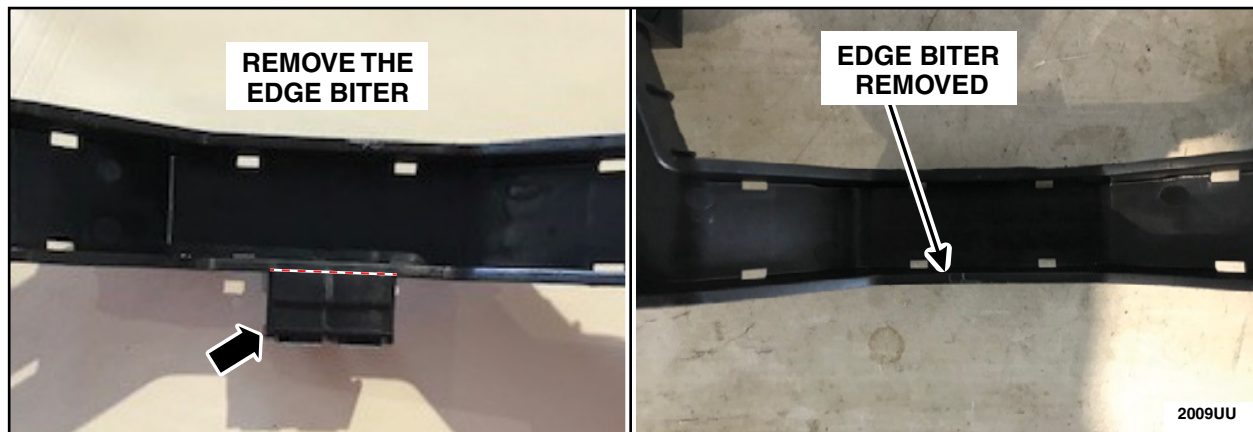

FIGURE 40
3. Remove the seven (7) tie straps holding the harness to the harness shield.
4. Using a suitable cutting tool, remove the edge biter clip flush with the surface of the harness shield as shown in Figure 40.